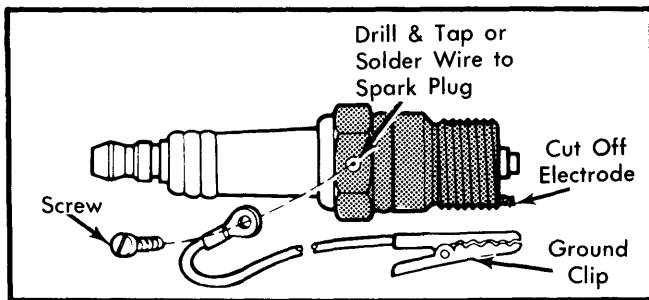

Fig. 3 Modifying Spark Plug for Testing
1) Using spark tester or modified spark plug (side electrode cut off), check for spark at each spark plug. See Fig. 3. If sparks occur, check fuel system and spark plugs. If no sparks occur, connect positive voltmeter lead to distributor "BAT" terminal lead in cap and negative lead to ground.